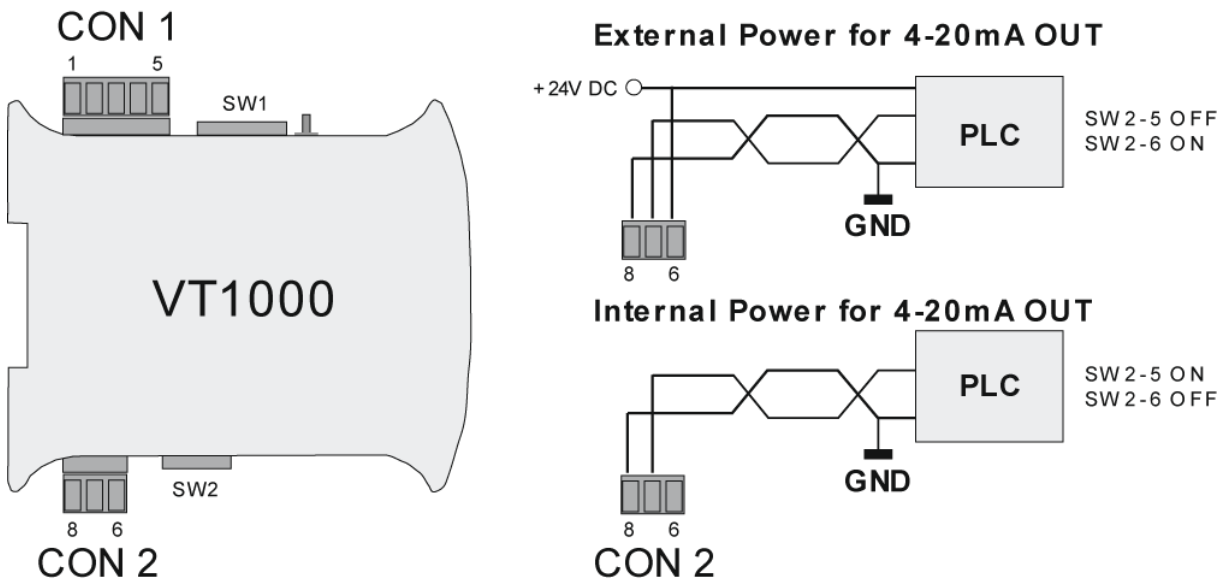

Figure 5 » VT1000 current loop
4..20 mA current connection is shown on the *Figure 5*.